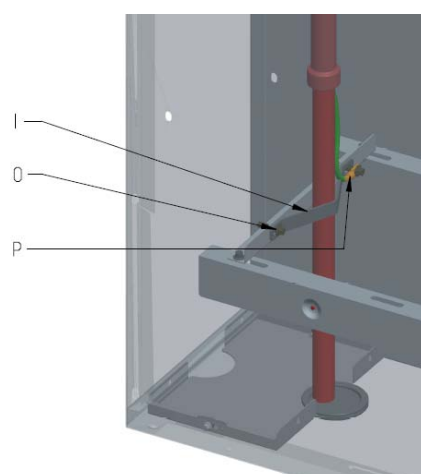

Figure 19: Assembly of earthing cable
- Use a sharp knife to make a number of cuts in the transit rubber (Figure 19 B).
- Move the transit rubber over the cable bushing (Figure 19 L).
- Assemble the cable using a contact lock (Figure 19 K) and a nut (Figure 19 J).
- Move the transit rubber over the cable (Figure 19 B) at the right height.